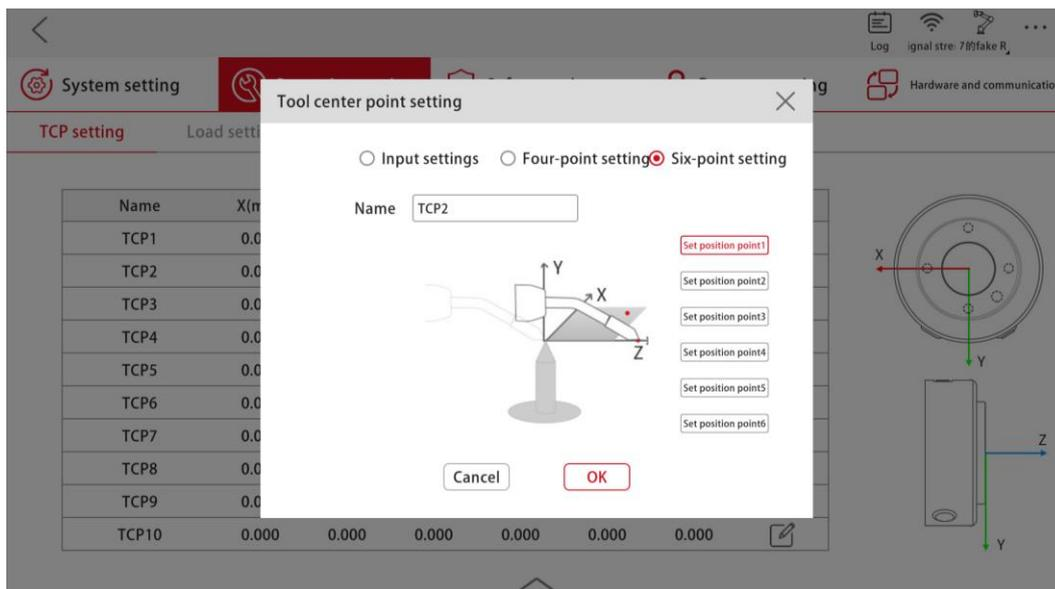

Figure 3-9 Six-point Setup Interface of Tool Coordinate System
(3) Six-point setup (as shown in Figure 3-9): Based on "Four-point Setup", determine the TCP axis direction by specifying two additional position points, so that TCP position and position parameters can be calculated automatically to get parameters of desired tool coordinate system. Six-point setup is generally applied when the robot end tool axis is not perpendicular or parallel to the robot end flange, and the Z axis of the tool coordinate system can be aligned with the robot end axis by "Six-point setup".